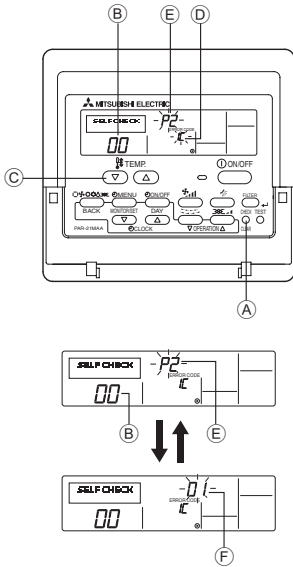

Fig. 7-3
7.3.1. Wired remote controller (Fig. 7-3)
- (A) CHECK button
- (B) Refrigerant address
- (C) TEMP. button
- (D) IC: Indoor unit